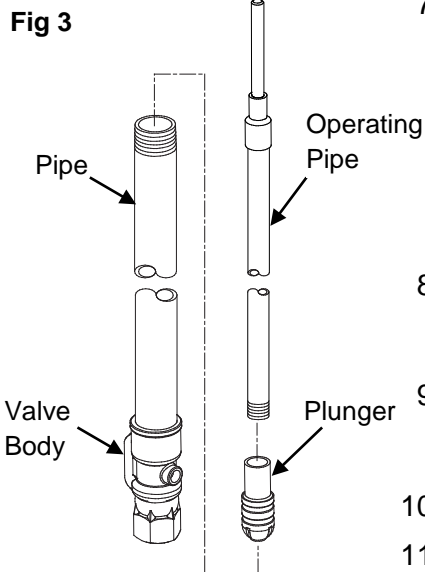

Fig 3
- Order #10105 Plunger for a Y34 hydrant or #10106 Plunger for a Y1 hydrant - Fig 3*